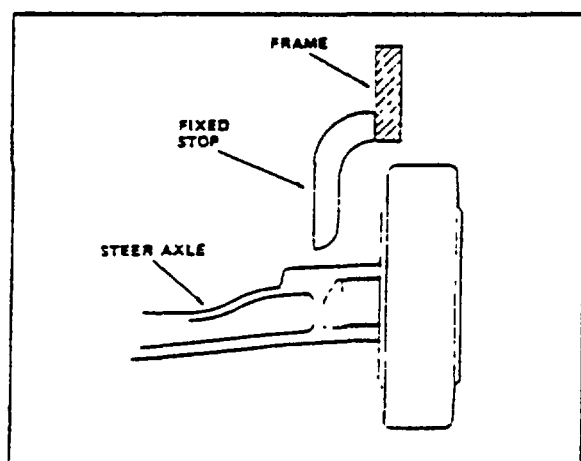

Figure 4-14. Steer Axle Stop
1. Steer Axle Stops Check the steer axle stops at the beginning of each work shift. These stops are welded to the truck frame in such position that one is directly above each of the steer axle yokes (Fig 4-14).